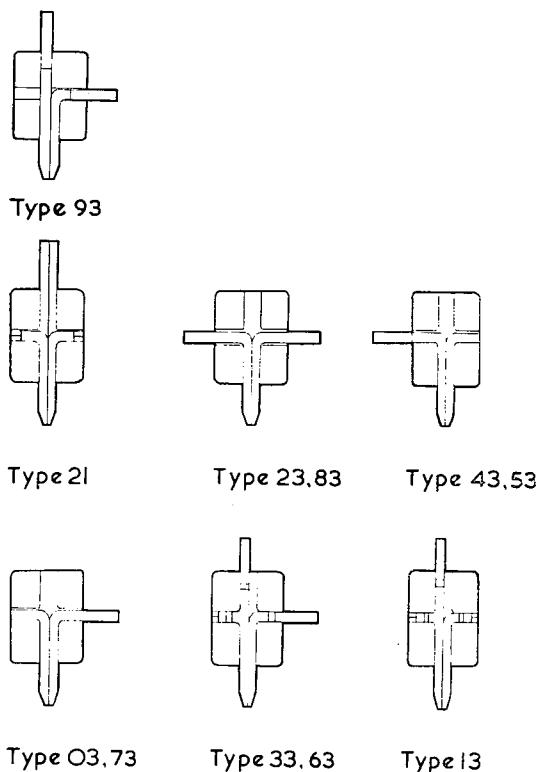

Fig. 2. 133 Series contact styles
- 21 Style of contact (fig. 2)
Where two numbers occur together in fig. 2 the difference is in tail length only, the lower number has pin length  $\frac{5}{32}$  in., the higher number a pin length  $\frac{1}{8}$  in.